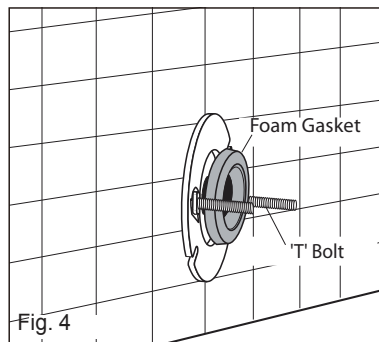

Fig. 4
2. Position "T" bolts and foam gasket (not supplied) onto closet flange as detailed in Fig. 4.